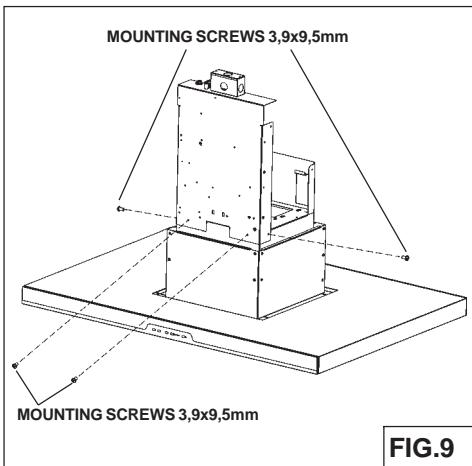

FIG.9
2. Attach electrical system box to frame using (2) 3.9 x 9.5 mm screws removed in Step 1 and (2) 3.9 x 9.5 mm screws and (2) lock washers from hardware bag (Fig.9)